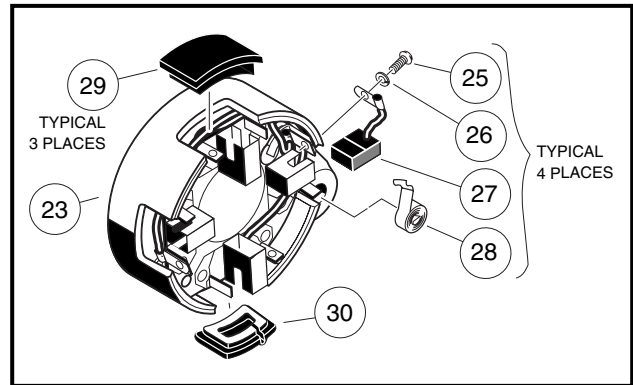
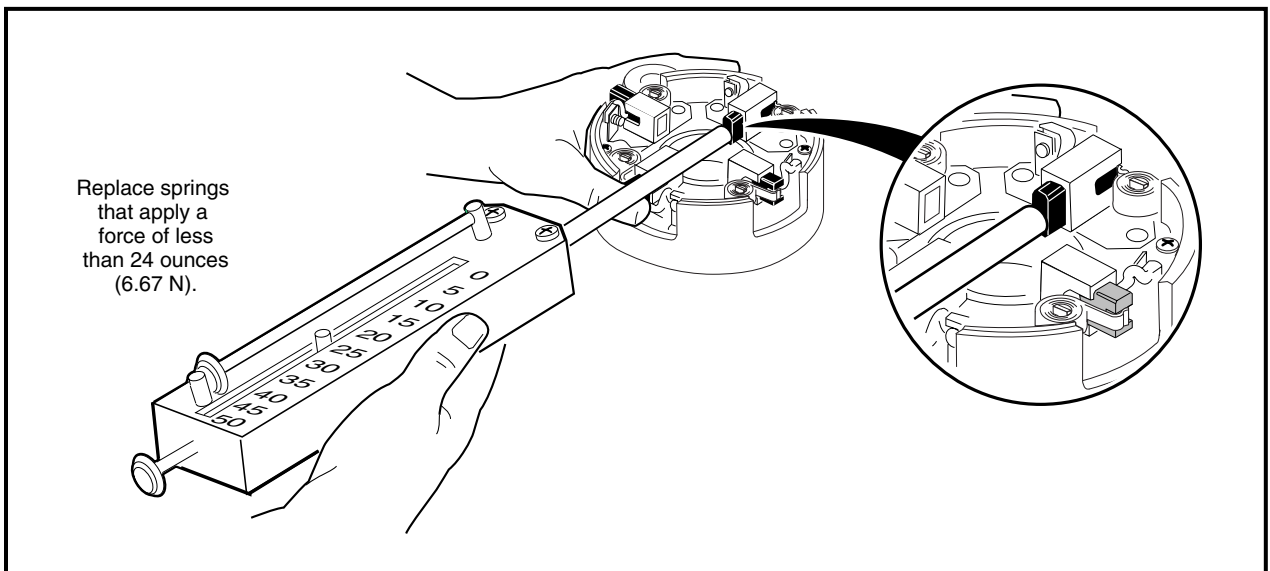

Figure 12-4 Brush Covers and Brushes
Figure 12-6 Brush Spring Tension Test
2. Remove brush covers (29 and 30), screws (25), lock washers (26), brush springs (28), and brushes (27) (Figure 12-4, Page 12-3). See following NOTE.
2. Install the four brushes (27) into their holders and insert the four brush springs (28) (Figure 12-4, Page 12-3). Test brush spring tension with a spring scale. If any spring has a tension less than 24 ounces (6.67 N), replace all four springs (Figure 12-6, Page 12-3). See following CAUTION.
1. Connect the brush wires to the holders using four lock washers (26) and four screws (25). Make sure the crossover leads are also connected. Tighten the screws to 31 in-lb (3.5 N·m) (**Figure 12-4, Page 12-3**).
4. Push the brushes down into the holders. Place springs into the notches in the brushes. Install the brush cover (30) that has the drain hole in it next to the A2 terminal. Install the remaining three brush covers (29) onto the openings in the commutator end cover (23) (**Figure 12-4, Page 12-3**).
10. Push the brushes down into the holders. Place springs into the notches in the brushes. Install the brush cover (30) that has the drain hole in it next to the A2 terminal. Install the remaining three brush covers (29) onto the openings in the commutator end cover (23) (**Figure 12-4, Page 12-3**).